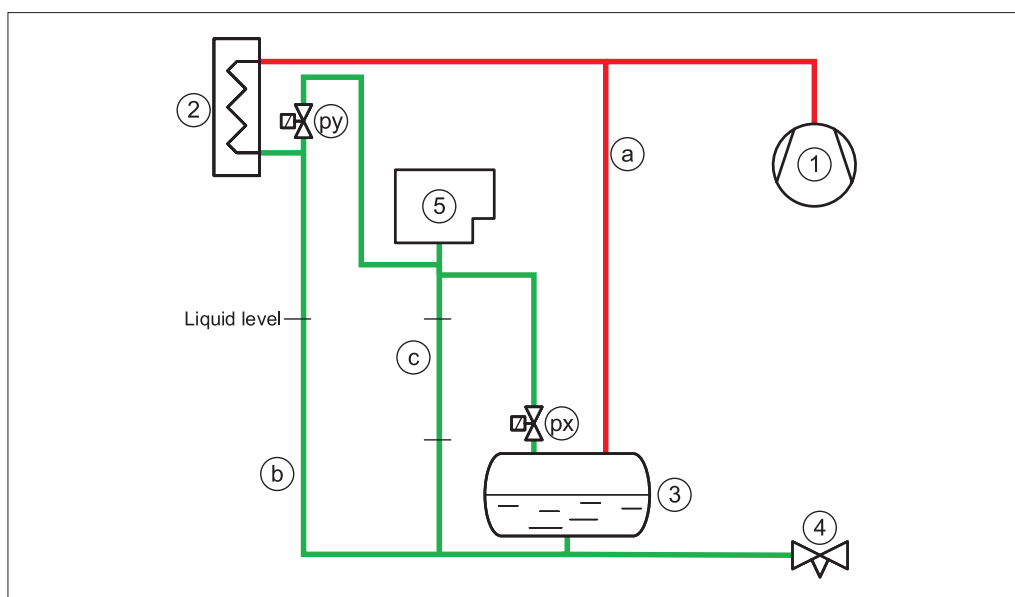
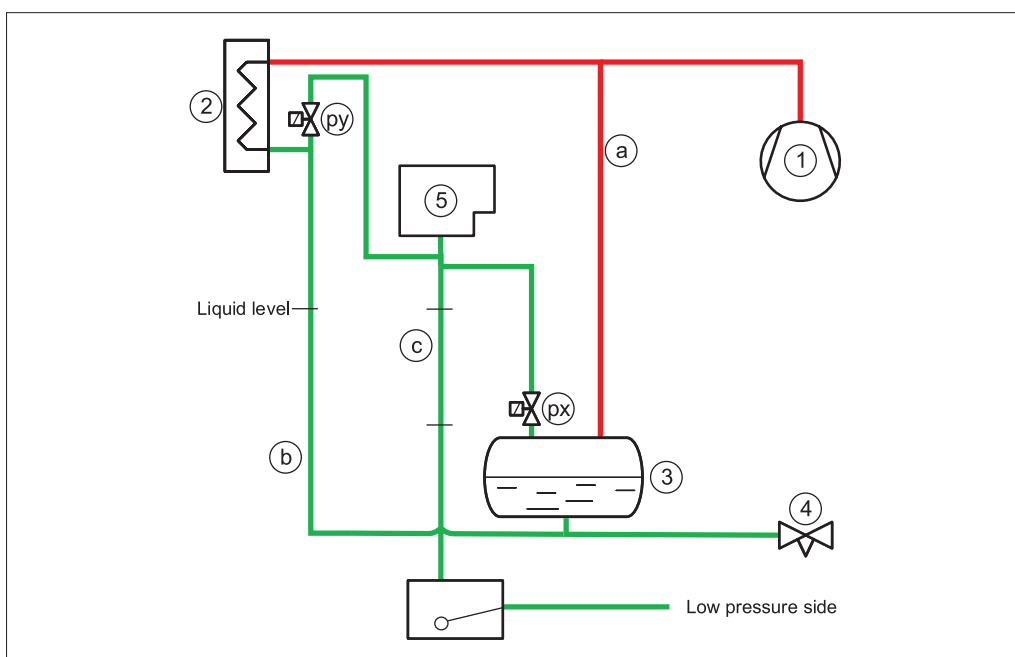

Fig. 6 Purger connections (px) & (py). Drain piping (c) must be vertical/downward slope
Fig. 7 Purger connections (px) & (py). Drain piping (c) must be vertical/downward slope
(See Fig. 6 and Fig. 7)
Alternatively, the air purger draining of liquid can be achieved effectively through an HP float valve (6) to the low pressure side (see Fig. 7).